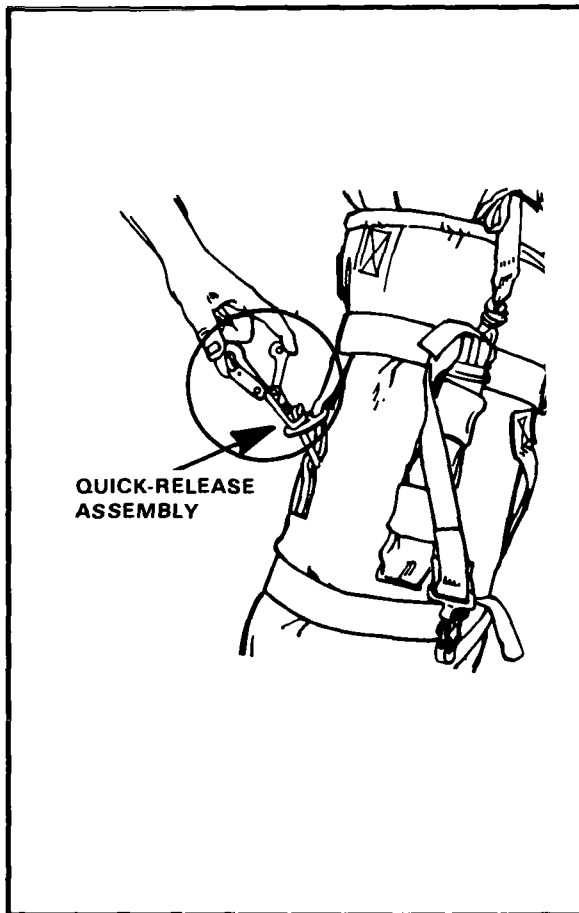

Figure 6-39. Quick-release assembly.
(7) Tighten the (three) horizontal securing straps as evenly as possible around the weapon(s).
(8) Attach the quick-release assembly to the pack (Figure 6-39).